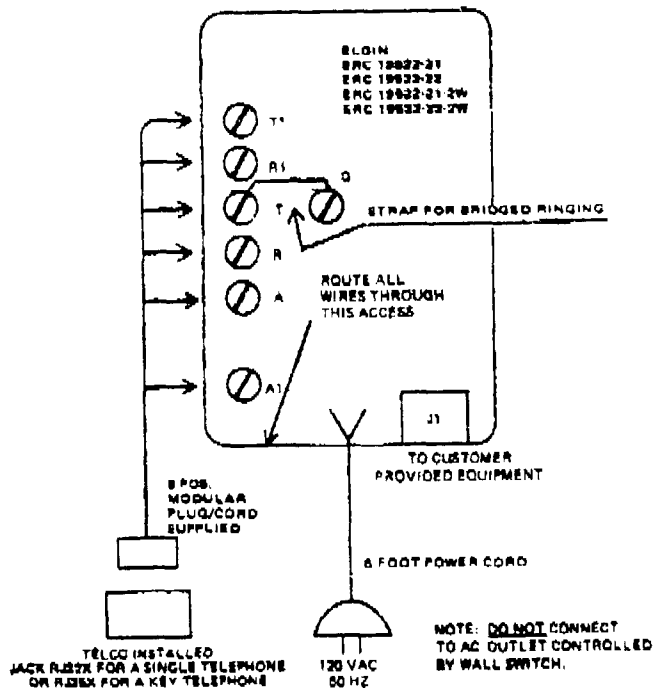

Fig. 2 — Typical Installation
3. BEFORE INSTALLATION (FIG. 2)